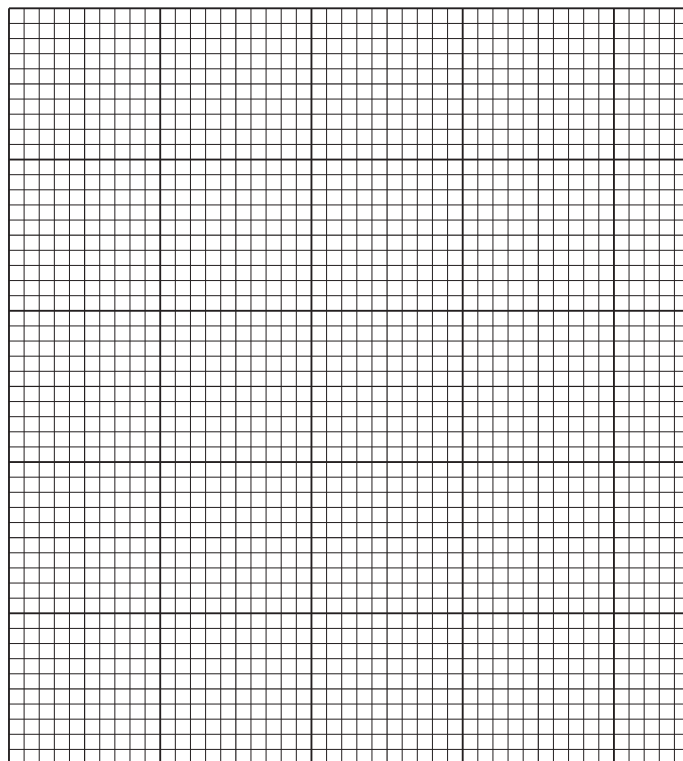

Fig. 1.1
- (i) Plot a graph of the data in Table 1.3 on the grid in Fig. 1.1.
- (ii) Use your graph in Fig. 1.1 to predict the post-harvest life of bananas if the mass of potassium manganate(VII) is 6.8 g.